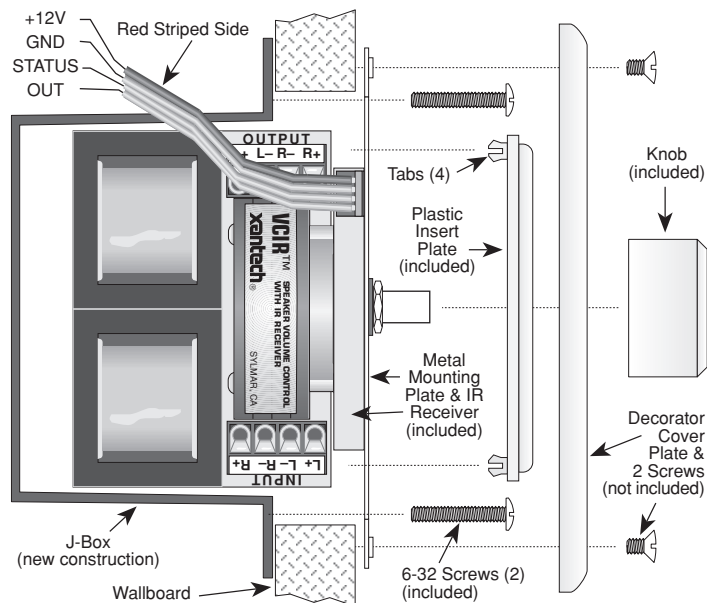

Fig. 6 VCIR Mounting Details
- **4-Terminal Block** (with double sided tape for mounting) included for easy extension of 18" ribbon lead. See **Fig. 6** for lead identifications.
3. The decorator-style **plastic insert plate** (supplied) is available in either white or ivory. Four plastic tabs allow it to be snapped into place onto the metal mounting plate. It is easily removed for refinishing to other colors, if desired, by squeezing the tips of the tabs inward while pulling outward on the insert plate. Be sure to remove the push-on knob first. Refer to **Fig. 6**. **Also, be sure not to paint over the two IR circular windows!** Cover with masking tape before painting.
4. Mount the unit using the hardware provided, referring to **Fig. 6**. The VCIR is attached to wall J-boxes using the two 6-32 pan-head screws supplied. Slots are provided in the metal mounting bracket so that adjustments to vertical alignment can be made.